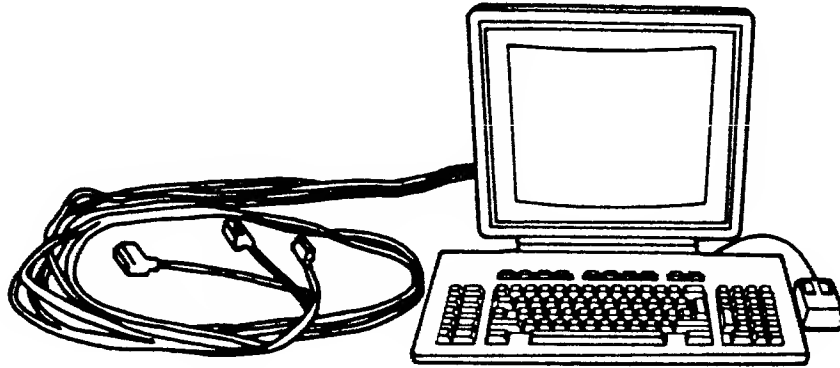

Figure 2-13. Uncoiling Cables Attached to Display
1. Uncoil the three cables (display power cord, display signal cable, and keyboard cable) from the rear of the display (Figure 2-13).